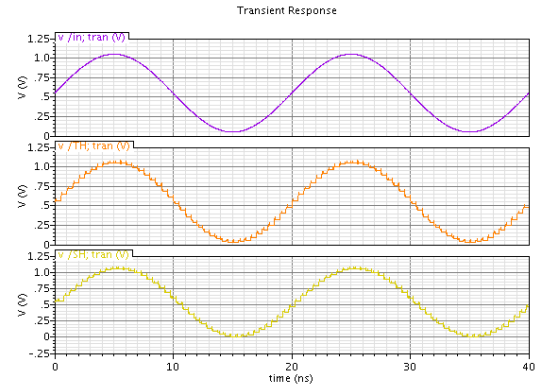
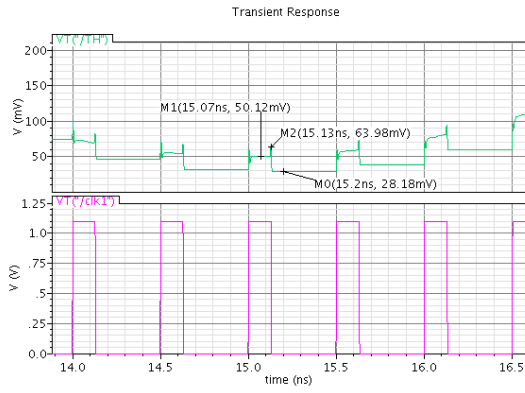
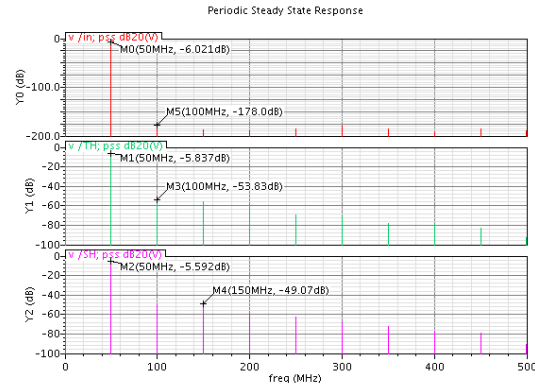
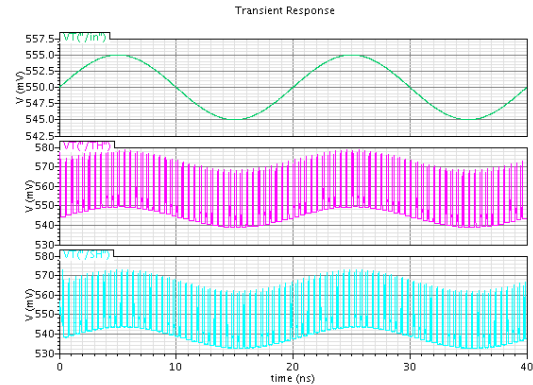

Fig. 2: Waveform at input, T/H and S/H nodes.
Fig. 3: Signal pedestal from sample mode to hold mode at T/H node.
Fig. 4: Spectrum at input, T/H and S/H node.
Fig. 5: 5mV amplitude input's waveform at input, T/H and S/H nodes.
2) *b*: Waveforms at input, T/H node and S/H node are in Fig. 2, centered at $V_{dd}/2$. The pedestal value is found to be about 22 mV (Fig. 3) when the input signal is sampled at the minimum value. This value here is dependent to the signal. Fig. 4 shows the FFT of the input and output signal, and SDR is about 43.478 dB at the output. Majorly, charge injection and clock feed-through cause the degrade of SDR.
3) *c*: With 5mV input amplitude, waveforms at input, T/H node and S/H node are in Fig. 5, centered at $V_{dd}/2$. The pedestal value is found to be about 6 mV (Fig. 6) when the input signal is sampled at the minimum value. This value here is dependent to the signal. Fig. 4 shows the FFT of the input and output signal, and SDR is also about 43.478 dB at the output. Majorly, charge injection and clock feed-through cause the degrade of SDR. One can see the spikes (about 30 mV in magnitude) at the T/H and S/H waveform when it goes from sample mode to the hold mode. This is because for the transmission gate, PMOS and NMOS transistors do not open (or close) at the same time if they are just geometrically (gate length and width) matched to each other. This causes the glitch (overshoot) at the transition between sample and hold states at T/H and S/H nodes.